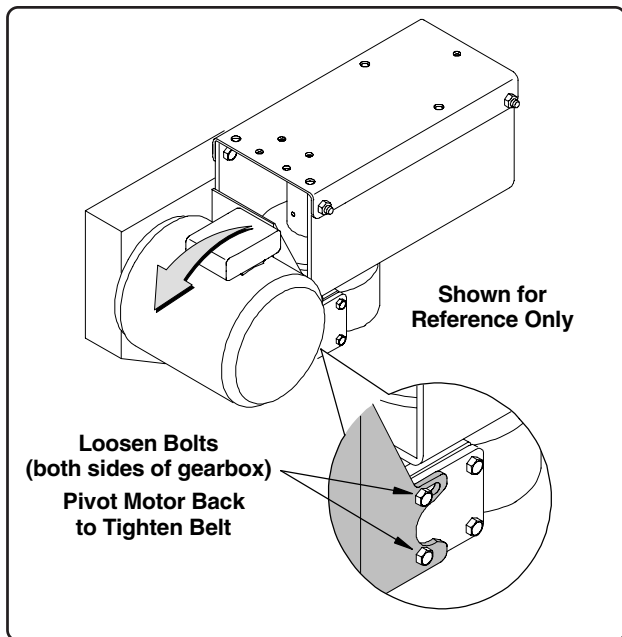

Fig. 12
3. To adjust belt tension, loosen the four bolts securing the motor mount plate (See Fig. 12).